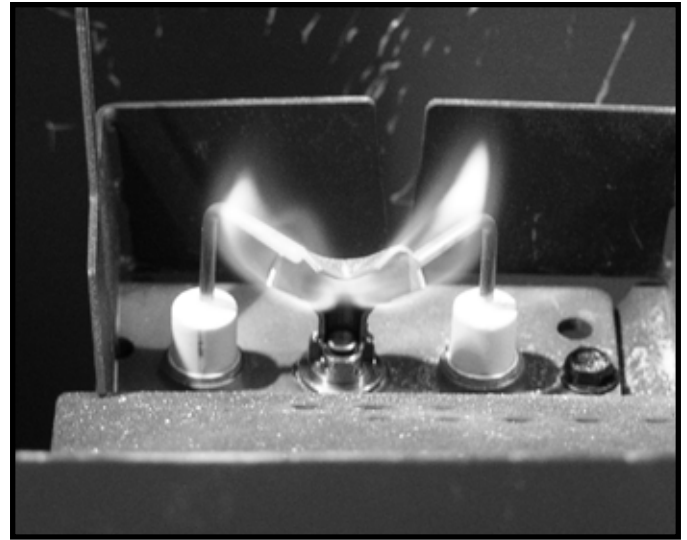

Figure 3.2 IPI Pilot Flame Patterns
- Inspect pilot flame pattern and strength. See Figure 3.2 for proper pilot flame pattern. Clean or replace orifice spud as necessary.